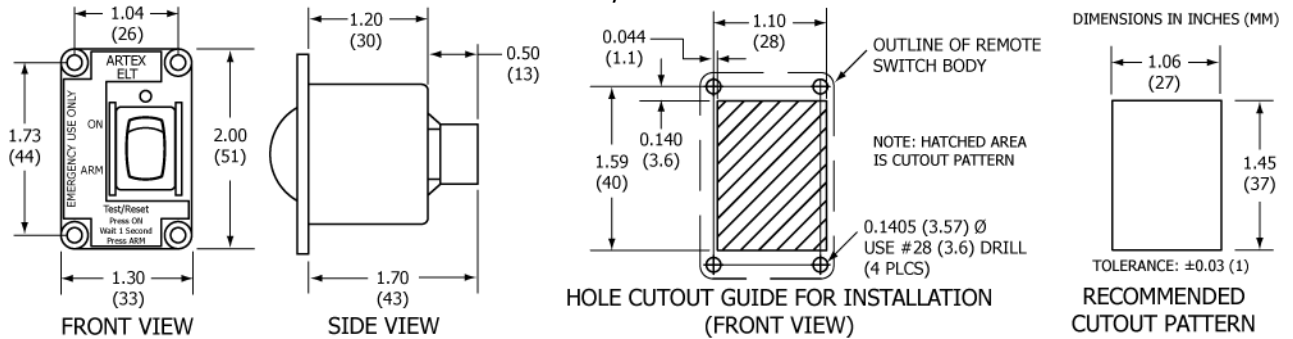

Figure 14 Remote Switch Outline and Dimensions
- 2) The switch assembly requires a panel area of approximately 2.0 x 1.3 in. (51 x 33 mm). Figure 14 shows the dimensions. The clearance behind the panel must allow for the mating connector and harness wires, as well as the switch depth.